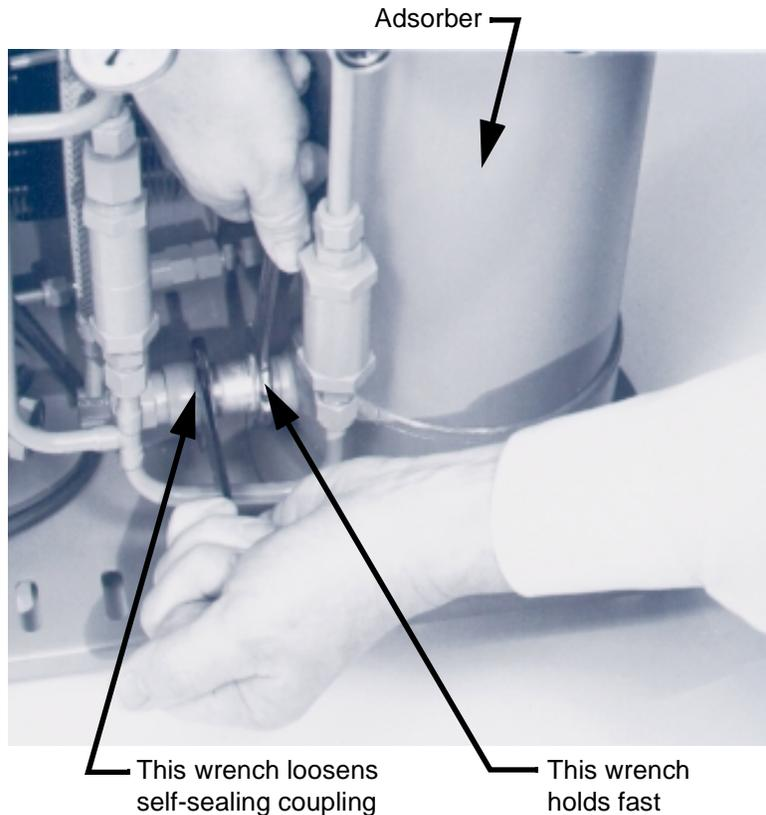

Figure 1: Proper Method for Disconnecting Adsorber Self-Sealing Couplings in the Model SC/SCW 8200 Compressor
3. Disconnect the flex lines from the gas-return and gas-supply connectors at the rear of the compressor. Disconnect the self-sealing couplings as shown in Figure 1 and as explained in steps 3A and 3B.